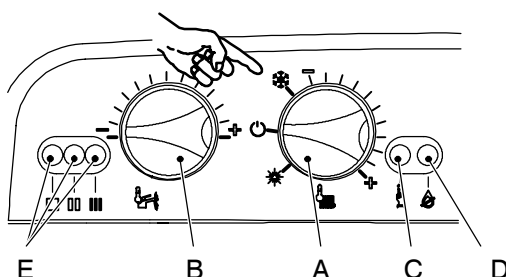

Fig. 9.13
- 4 Keep pressed the reset button C for about 10 seconds (Fig. 9.13) until the lock-out signal lamp D blinks.